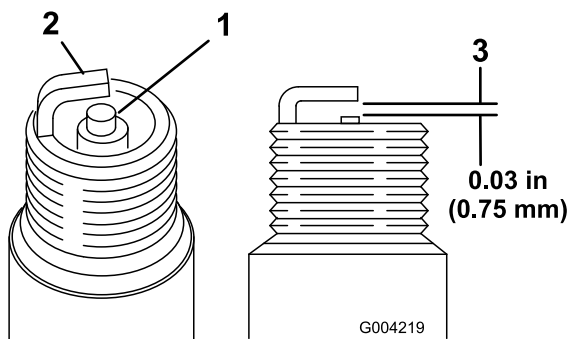

Figure 35
1. Look at the center of both spark plugs (Figure 35).
2. Check the gap between the center and side electrodes (Figure 35).
3. Bend the side electrode (Figure 35) if the gap is not correct.